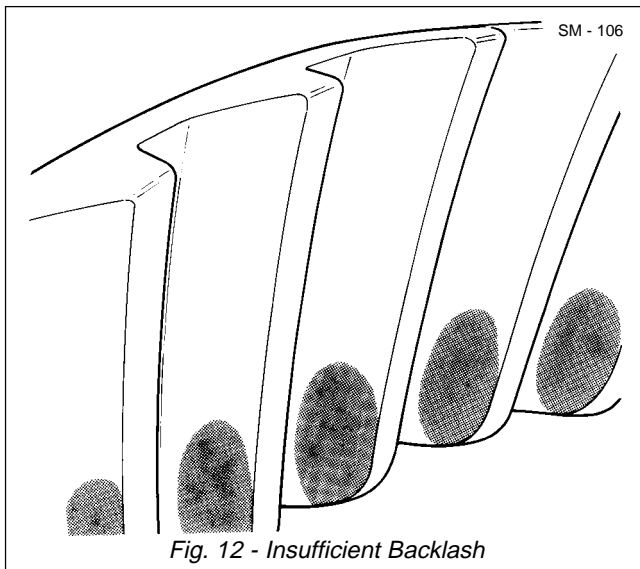

Fig. 12 - Insufficient Backlash
- b. If the contact area is on the inner side of the ring gear teeth, see Fig. 12, move ring gear away from pinion by turning bearing adjusters equal amounts until the proper bearing pattern is obtained.